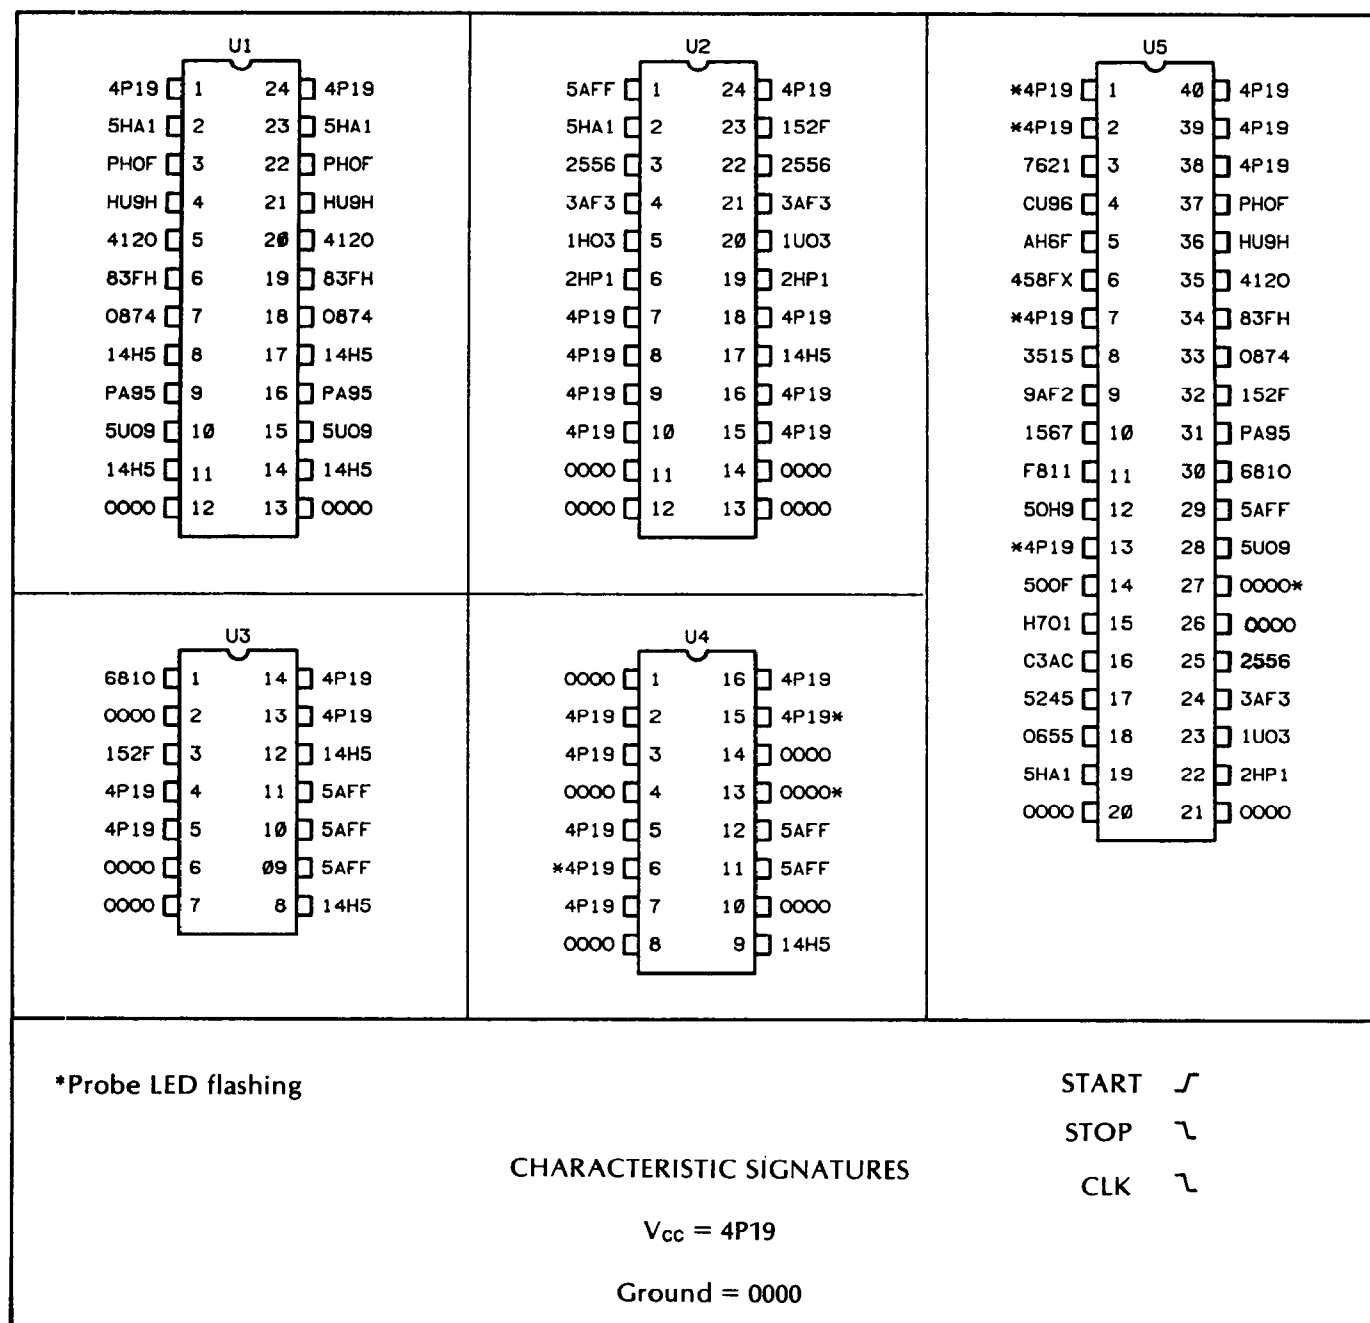

Figure 8-34. 5350B/5351B/5352B A11 Signatures
7. Verify the signatures shown in *Figure 8-34*. First verify the characteristic signatures, V_{cc} and ground. It is recommended that signatures on the HP-IB processor, U5, be checked first as this is where the signal activity is generated. The clock frequency for U5 should be 3.6 MHz typically, and can be checked by measuring the frequency at U5, pin 7 and multiplying by 367.